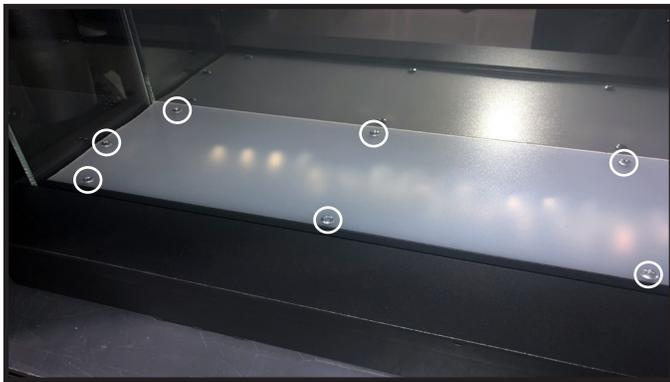

Figure 10 Ember Bed Cover
2. With the logs/media removed, remove screws holding the plastic ember bed cover down. Lift the cover out of the appliance. See Figure 10.
7. Reinstall ember bed cover with either 16 or 18 screws. See Figure 10.